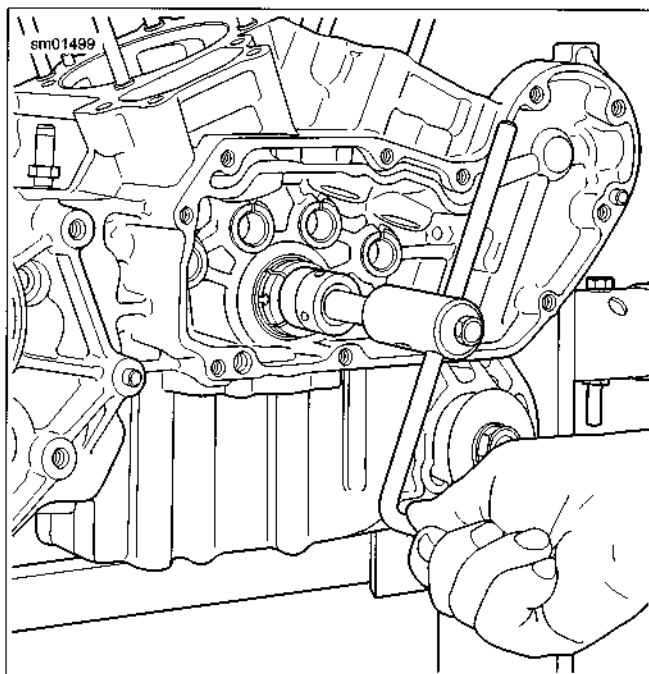

Figure 3-104. Lapping Pinion Shaft Main Bearing
1. See Figure 3-104. Obtain CRANKCASE MAIN BEARING LAPPING TOOL (Part No. HD-96710-40C). Assemble CRANKCASE MAIN BEARING LAP (Part No. HD-96718-87) to lapping handle.